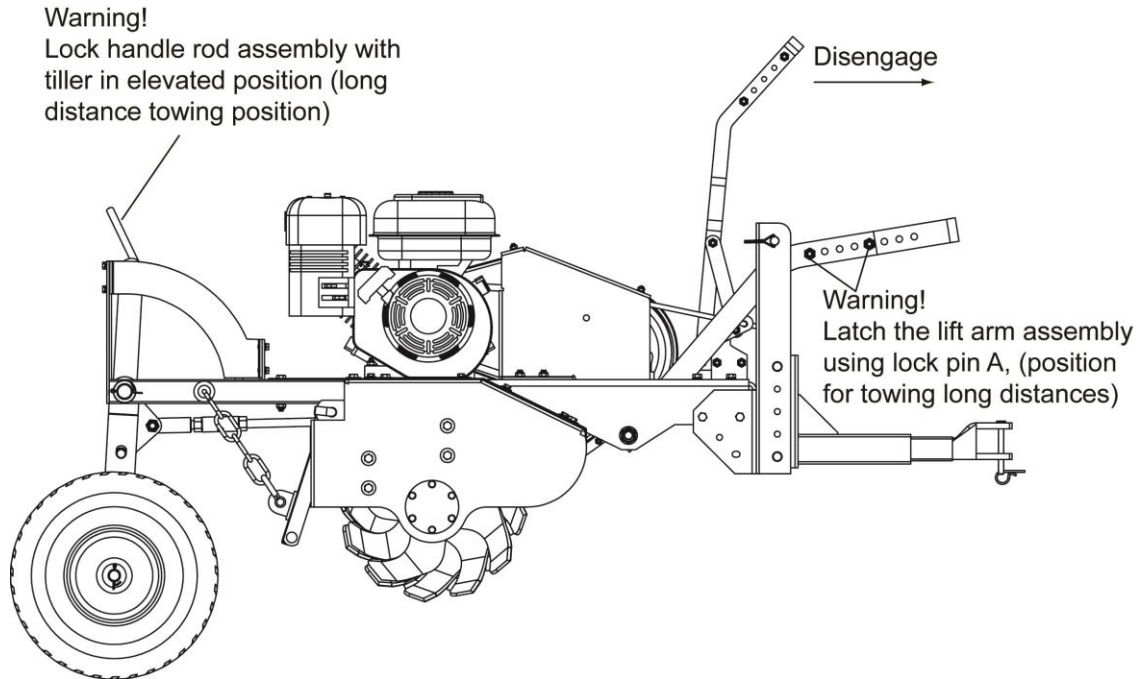

Figure 5
1. Raise the Tiller Tines by making sure the Lift Arm is forward, then place the Tiller on level ground. Figure 5 shows the Tiller in the towing position (non-tilling position).